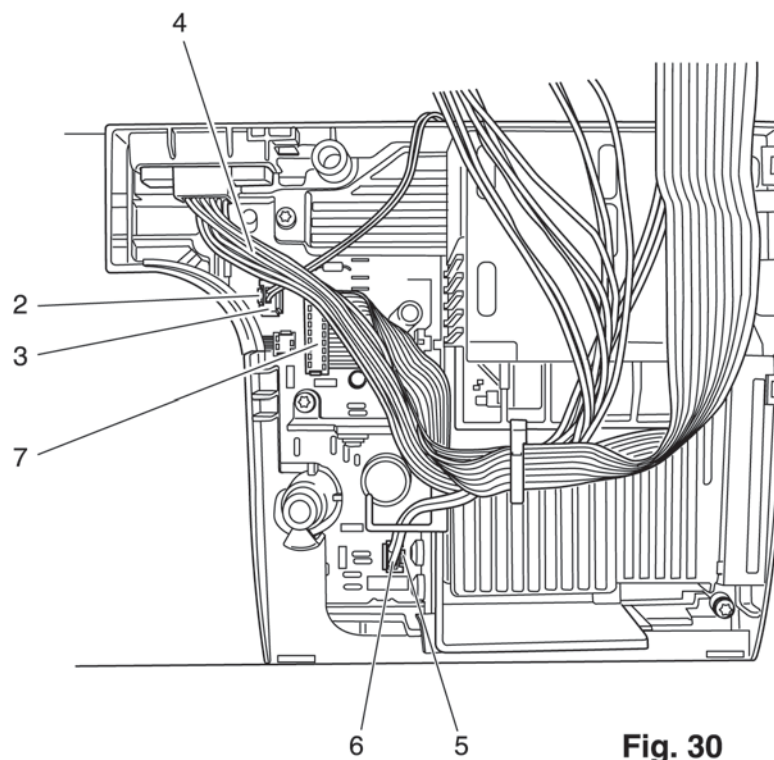

Fig. 30
- Lift latch 2 only 1 to 2 mm (fig. 30).